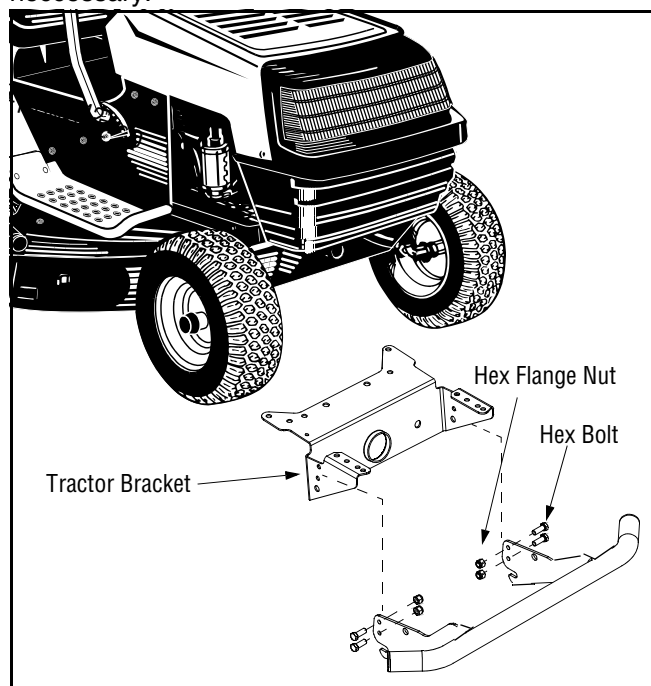

Figure 2
**NOTE:** The front bracket is exploded from the tractor for clarity in Figure 2.
- To mount the bumper to the tractor, slide the bumper over the front brackets, aligning the two holes in the bumper over the two upper holes in the bracket. See Figure 2.